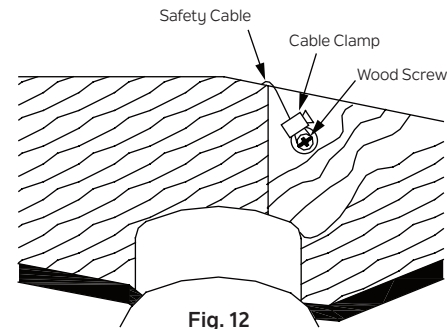

Fig. 12
Step 2. Insert the safety cable through the mounting bracket and one of the holes in the outlet box into the ceiling. Adjust the length of the safety cable to reach the wood screw and flat washer by pulling the extra cable through the cable clamp until the overall length is correct, put the end of the cable back through the cable clamp, forming a loop at the end of the cable. Tighten the cable clamp securely. Now, put the loop in the end of the safety cable over the wood screw and under the flat washer. Tighten the wood screw securely. (Fig. 12)